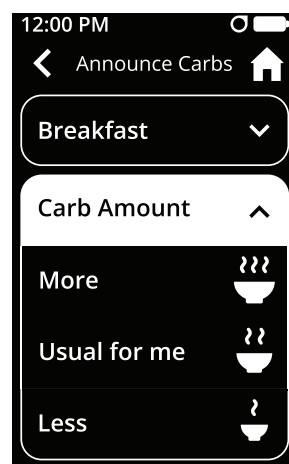

Figure 99
- b. Confirm that the correct Meal Type is selected (see Figure 99). You may change it by tapping on the meal you selected previously.
- c. Tap Usual for me. Choose from 3 Carb Amounts: More, Usual for me, and Less (see Figure 99).